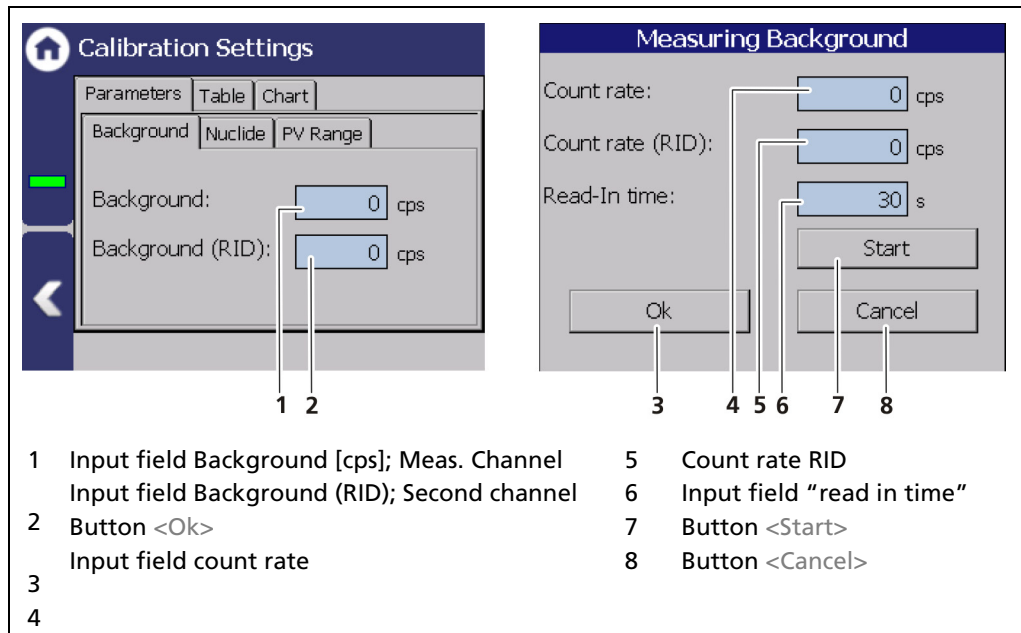

Fig. 76 Calibration Parameters: Background
The background count rate (Fig. 76, item 1) is the natural background radiation seen by the detector and must be measured at least for rod detectors. This count rate is compensated for by the system. The best approach for your background measurement is dependent on the situation on site and on the type of radiation source.
- Click on the text field "Background" (Fig. 76, item 1).